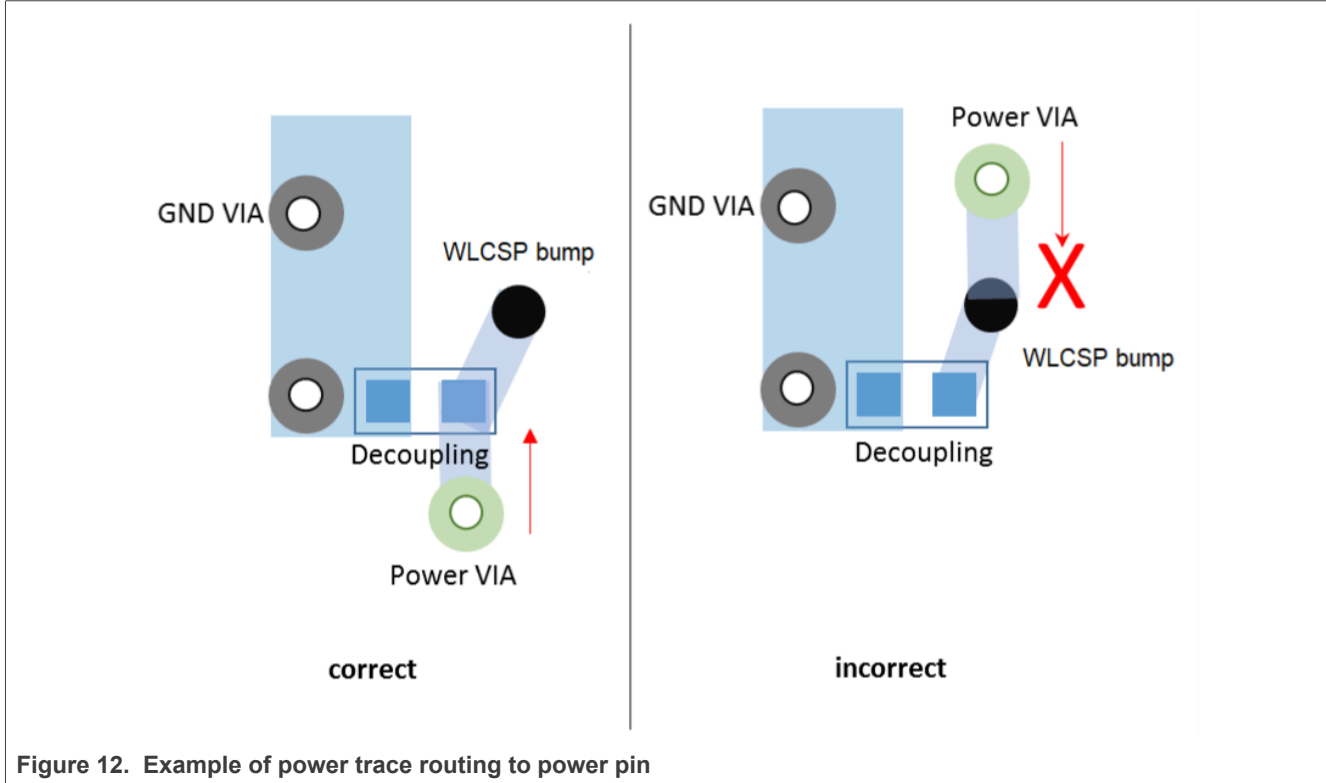

Figure 12. Example of power trace routing to power pin
- The power from source to power pin must go through the decoupling network before connecting to the power pin as shown in Figure 12.